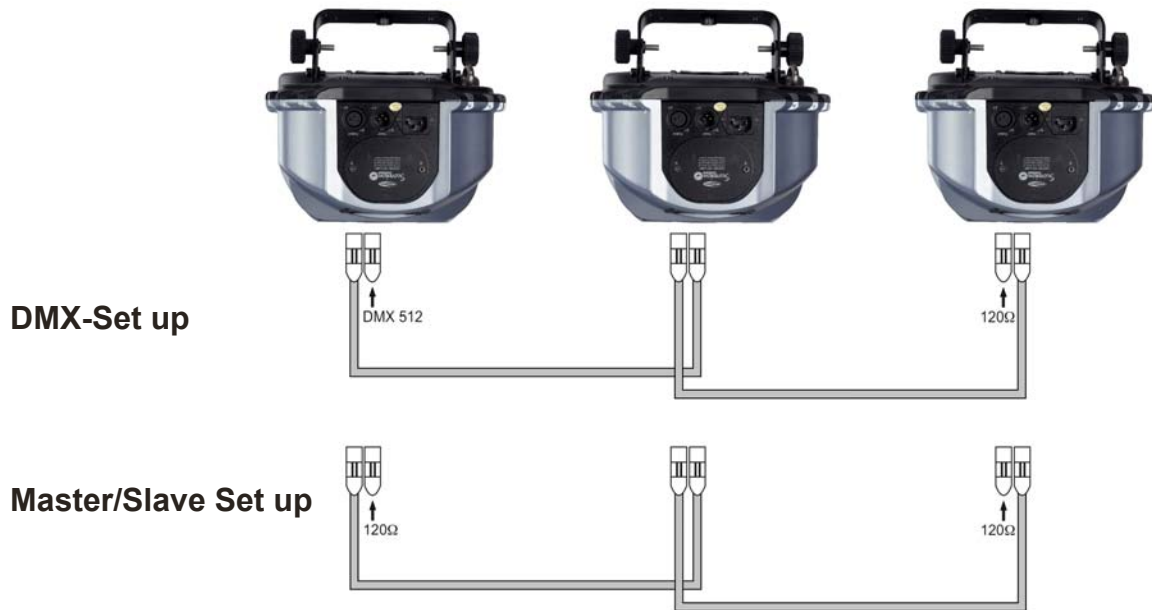

Fig. 4
- Link the units as shown in (figure 4), Connect a DMX signal cable from the first unit's DMX "out" socket to the second unit's "in" socket. Repeat this process to link the second, third, and fourth units.